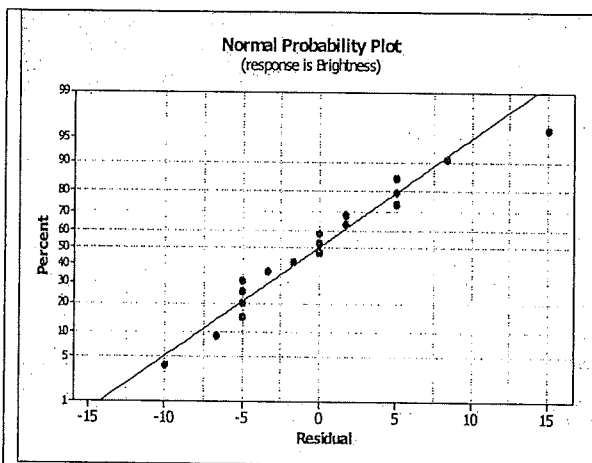
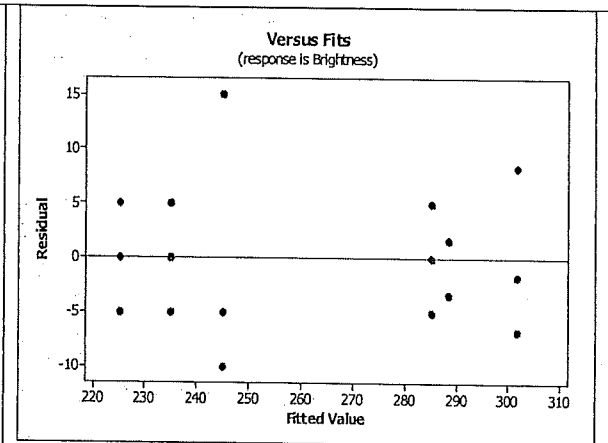

Figure 4 : Normal Probability Plot
Figure 5 : Residual vs Fitted value
4. [b] From experiment 4(a), you are required to submit a model report to your supervisor. Your supervisor requested you to provide an accurate summary of the overall new finding using the ANOVA from 4(a), Figure 4 and Figure 5.
- (i) Analyze the normality and residuals from this experiment using the Figure 4 and Figure 5.